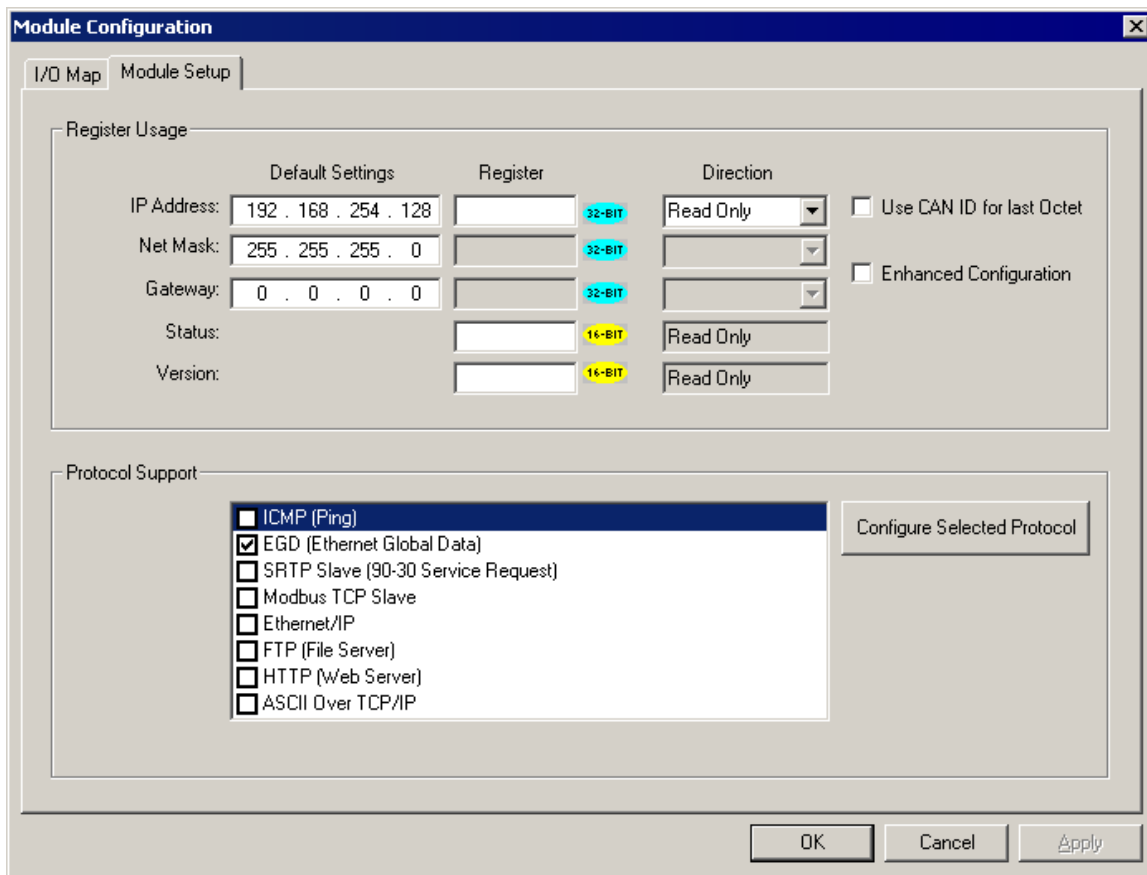

Figure 6.14- Ethernet Module Configuration - Node 2
1. On the main Cscape screen, select **New** on the **File** menu to start a new user program. Then open the Ethernet Module Configuration dialog (Chapter 3, Figure 3.5 [page 18]), and fill in the parameters for Node 2, as shown in Figure 6.14 below.